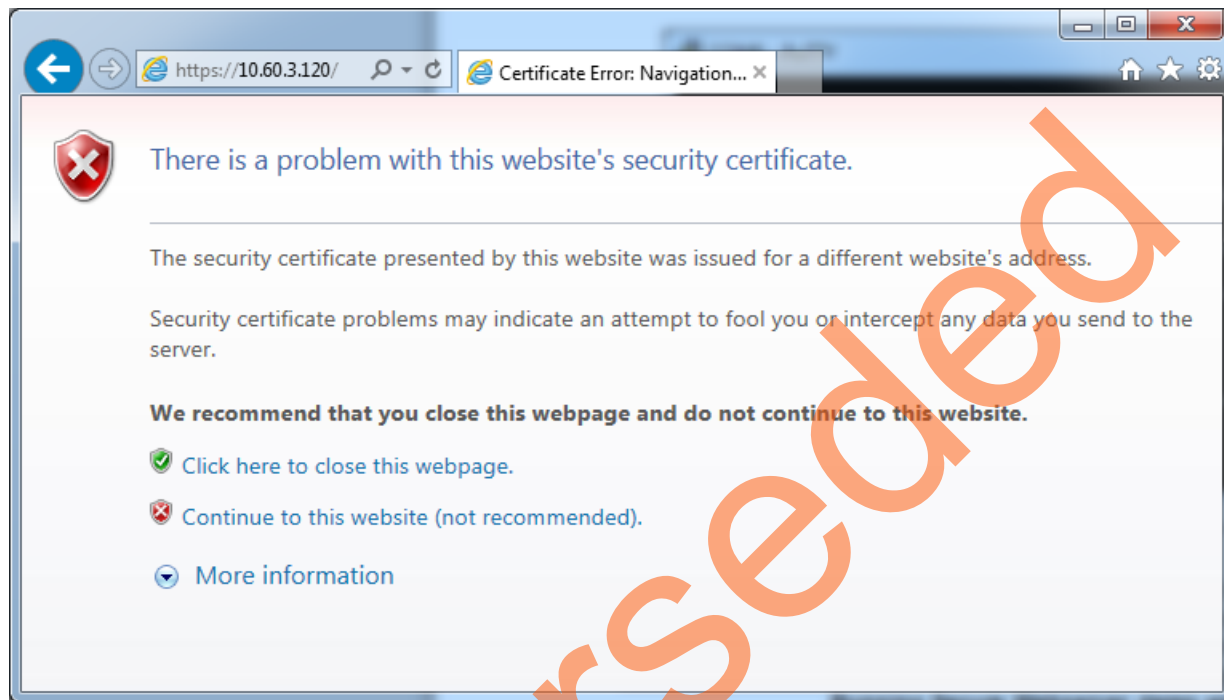

Figure 13 • Microsoft Internet Explorer showing Certificate Error Warning Message
1. Open the Microsoft Internet Explorer and type the URL (for example, <https://10.60.3.120>) in the address bar. The browser shows a warning message as shown in Figure 13.